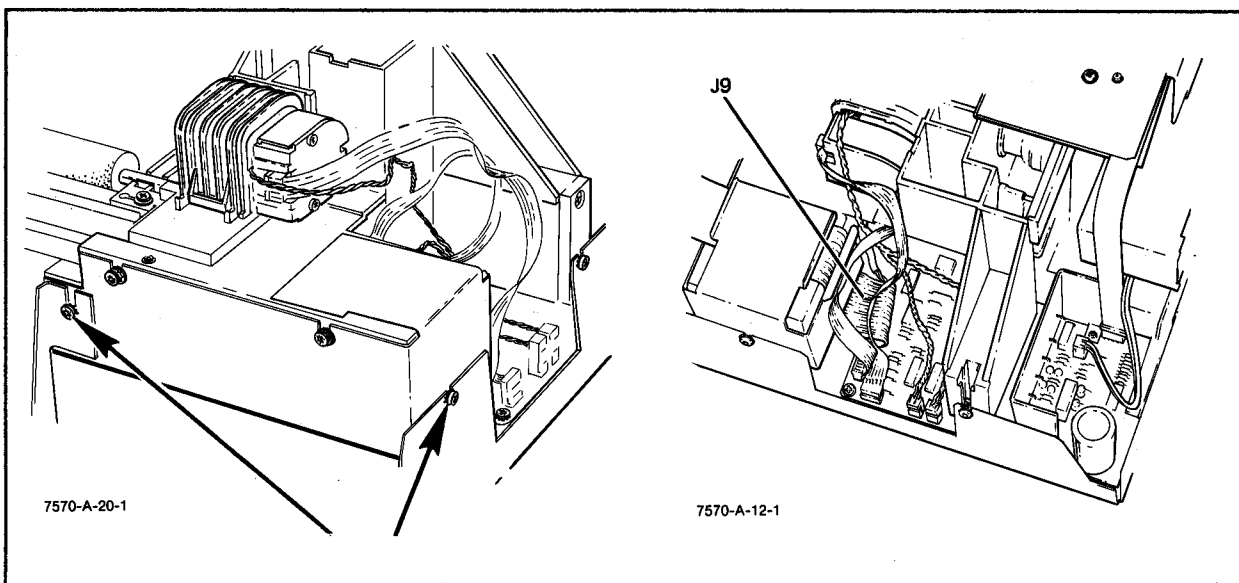

Figure 6-10. Front Panel Cable Removal
- a. Loosen the screws in the shield. See Figure 6-10.
- b. Lower the shield in to position and tighten the two machine screws. See Figure 6-10.